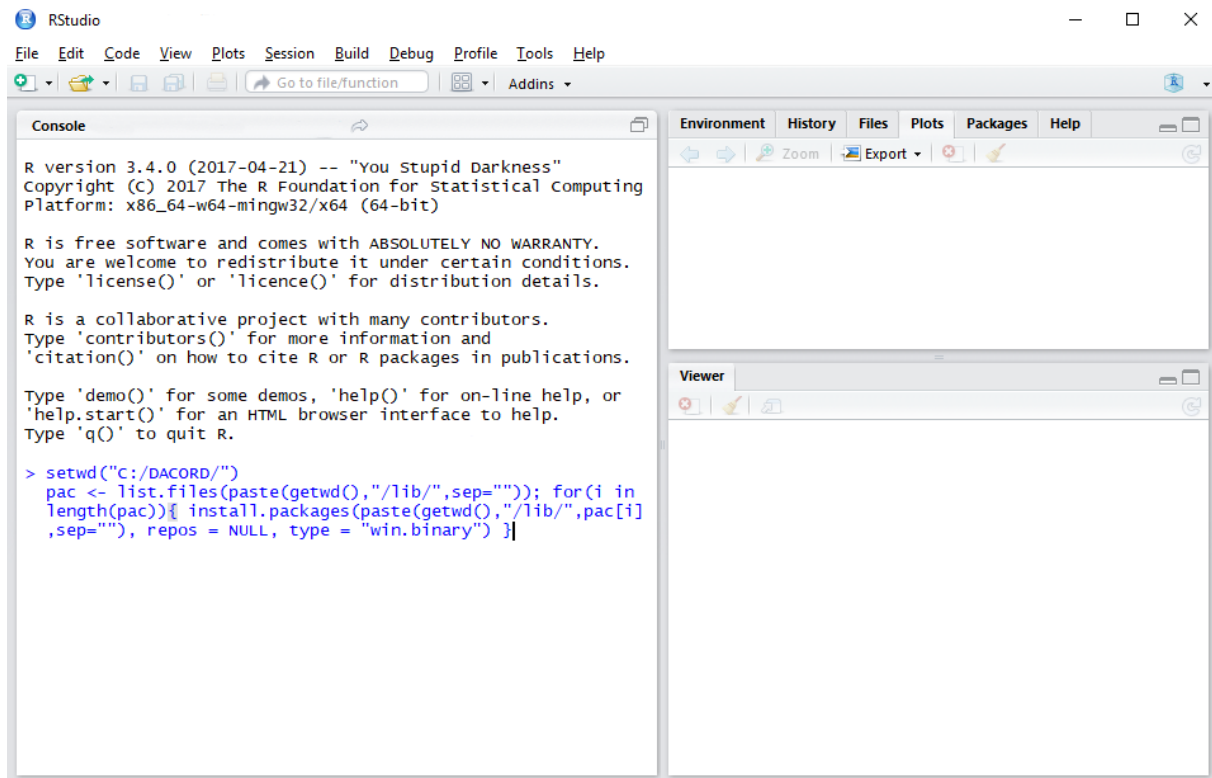

Fig. 2. Package installation from 'lib' folder.
b) Otherwise you can install packages directly from the 'lib' folder. In that case, select and paste the following code to the Rconsole (Fig. 2):